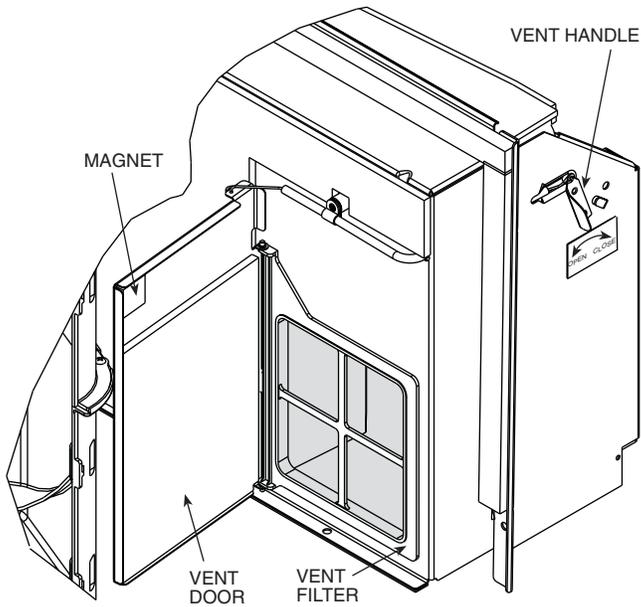

FIGURE 13 — VENT DOOR
■ **ADJUST VENT** — The vent handle is on the left side of the unit. Turn handle to open or close vent. Vent will remain in last desired position until handle is turned again. Magnet will ensure positive closure. See Figure 13.
■ **OUTSIDE AIR** — To bring outside air into occupied space, turn the vent handle to the full open position. See Figure 13.